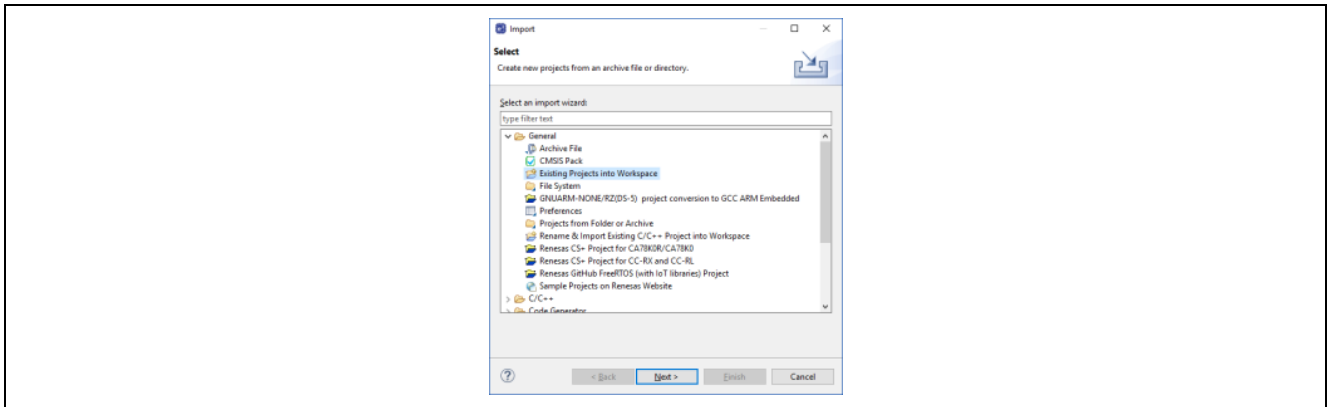

Figure 5-1. Import sample project (RZ/V2H) (1)
4. Double-click General and select Existing Projects into Workspace as shown in Figure 5-1: